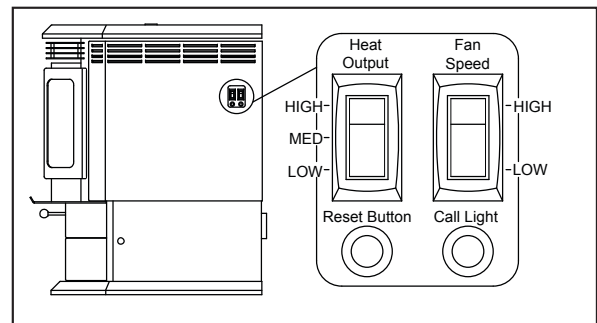

Figure 25.1
3. Occasionally the appliance may run out of fuel and shut itself down. When this happens, the red call light will be on. To restart it, fill the hopper and press the reset button. **(See Figure 25.1, page 25)**. When you press the reset button the red call light will go out. Release the button and the light will come back on. You should see a fire shortly. If not, follow the instructions on **page 26**, of "Starting Your First Fire".